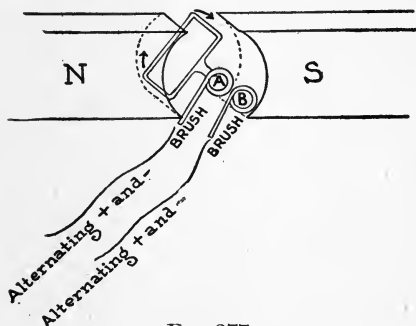

FIG. 277.
Alternating (AC) currents and direct (DC) currents are generated on the same dynamo. The method by which the current is obtained is through the arrangement of the **commutator**. Fig. 277 shows the method by which alternating current is obtained from a dynamo. As the wire 1 passes by magnet *S*, current is generated in the direction of the arrow, which is carried by the wire to the brush on the armature at *A*. As wire 1 moves from the bottom of the magnet *N* toward the top, current is generated in the direction
**The Cycle.**—A cycle in a dynamo occurs when a plus magnet or wire on the armature passes from a plus magnet by a minus magnet to a plus magnet again. For example, if there are two magnets such as in Fig. 277, the passing of the wire from the north magnet by the south magnet and back again to the north magnet represents one cycle, that is, the wire turns around once. If the dynamo had four magnets (two north and two south poles), the wire would pass through two cycles in turning around once. How many cycles would the dynamo have if there were sixteen plus and sixteen minus poles on the dynamo? How many cycles per second would the dynamo have if the wire turned around ten times in one second?